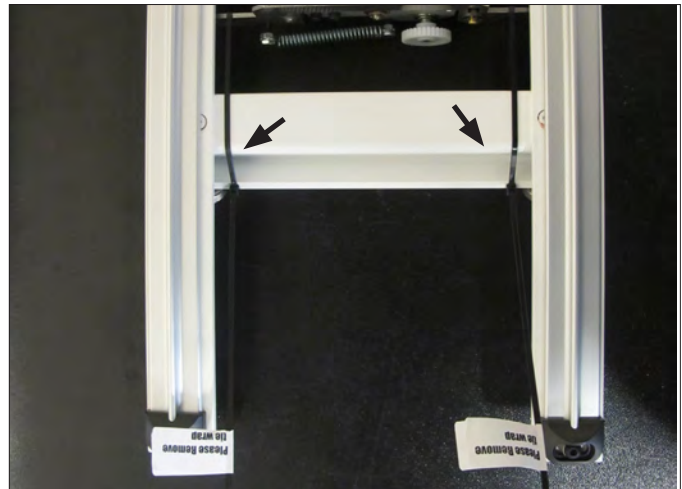

Figure 3.2
1. Remove the blue 12-foot Flexirack (Page 3.3, A) and the HQ Pro-Stitcher carriage (E) from the box. Cut the cable ties from the front of the carriage (Figure 3.2).